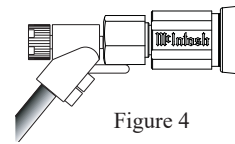

Figure 4
4. Referring to figure 4, connect the Loudspeaker hookup cables with banana plugs into the hole at the end of the terminal to the ML1 Negative (-) LOW Input Terminal and Positive (+) LOW Input Terminal.
- Referring to figure 4, connect the Loudspeaker hookup cables with banana plugs into the hole at the end of the ML1 LOW Negative (-) and Positive (+) Input Terminals. Then connect cables to the ML1 HIGH/MID Negative (-) and Positive (+) Input Terminals.